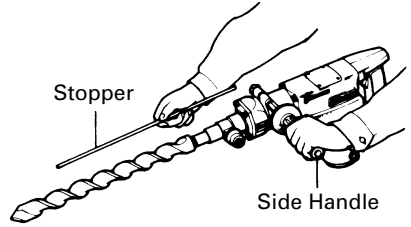

Fig. 7
(1) Install the stopper (Fig. 7)
- ① Loosen the side handle and insert the straight portion of the stopper into the handle bolt hole from the front cover.
- ② Loosen the side handle, move the stopper to the specified position and rotate the grip of the side handle clockwise to fix the stopper.